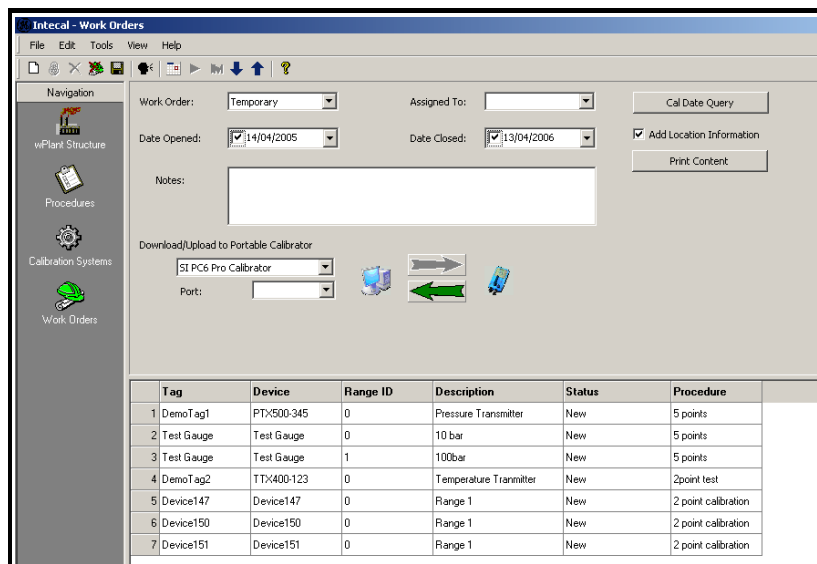

Figure 6-1: Work Order window
Use Intecal *Work Orders* to manage your calibration work. Figure 6-1 shows the *Work Orders* window.
In the *Work Orders* window (Figure 6-1), select the applicable *Work Order* from the drop-down list. You can then add the necessary instructions:
1. In the *Work Order* window (Figure 6-1), select the *Work Order* from the drop-down list.